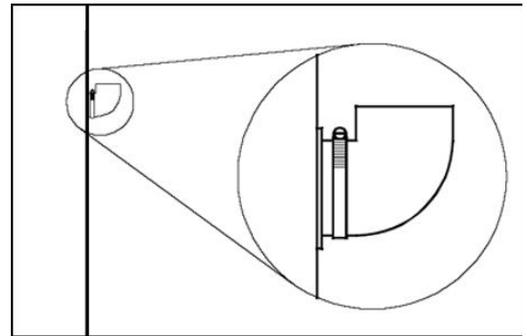

Fig. 3.23
- Assemble the protective elbow at the steam exhaust facing upwards and fastened with the flange (Fig. 3.23).